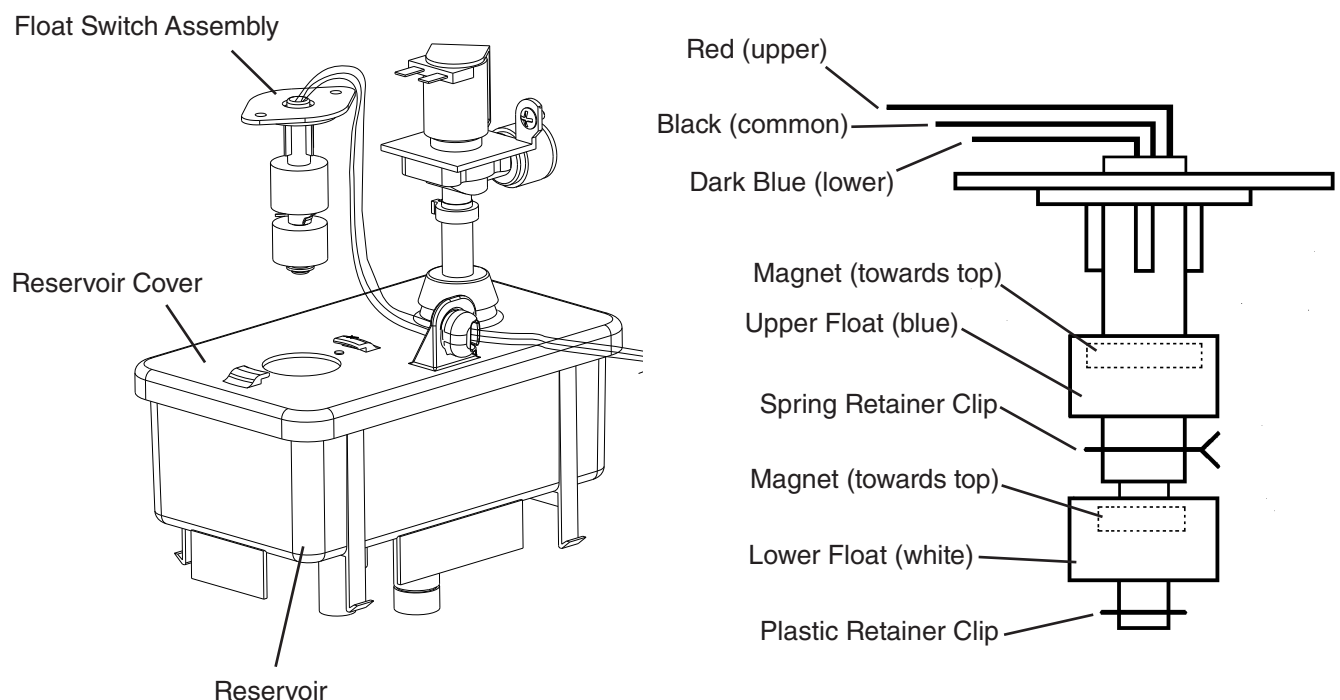

Fig. 1
- 4) Remove F/S assembly from the reservoir cover. See Fig. 1.
- 6) While not necessary, the floats can be removed from the shaft during cleaning. If you remove them, note that the blue float is on top (UF/S) and the white float is on bottom (LF/S). The floats must be installed with the magnets inside them towards the top of the switch. See Fig. 1. Installing the floats upside down will affect the timing of F/S operation.